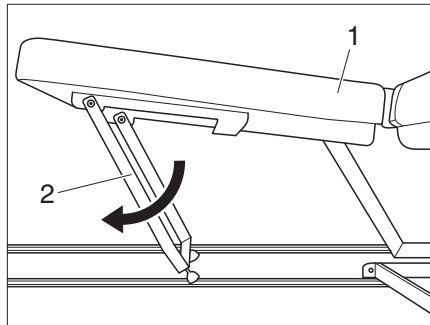

Fig. 4 Unfold the feet
- Fold down the feet (Fig. 4,2) under the bed extension (Fig. 4,1) until they lock into a vertical position.